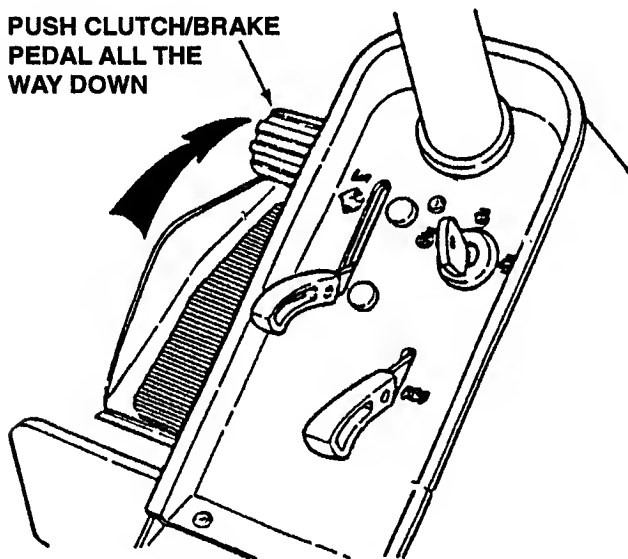

FIGURE 2.15
2. Release park brake by pushing down on the Clutch/Brake Pedal to release park brake lever. See Figure 2.15.